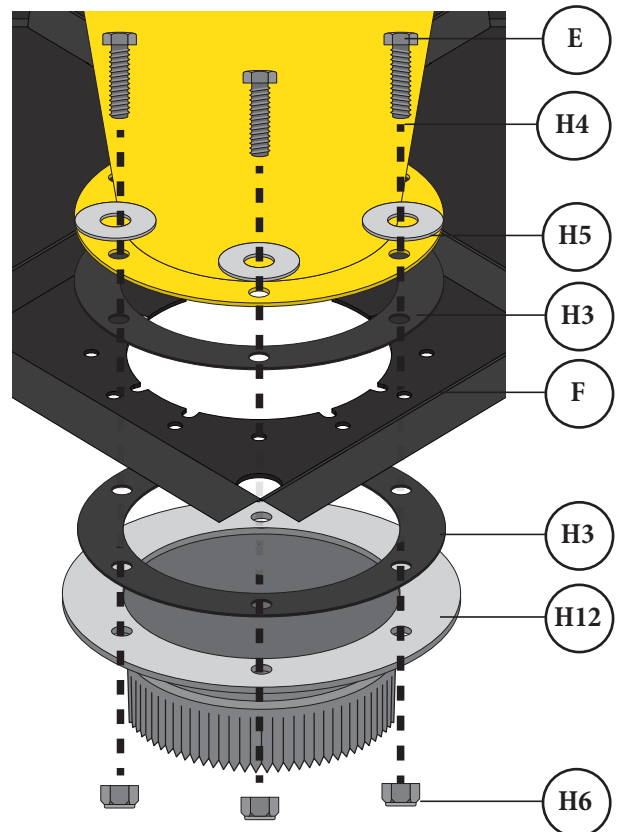

FIG. 3a
Connect the Cyclone (E) and the 5" Collared Flange (H12) to the Stand Body (F) with a Flange Gasket (H3) placed between each one. Secure together using six Hex Head Bolts (H4), six Flat Washers (H5), and six Nylock Nuts (H6) as shown in [FIG. 3a].